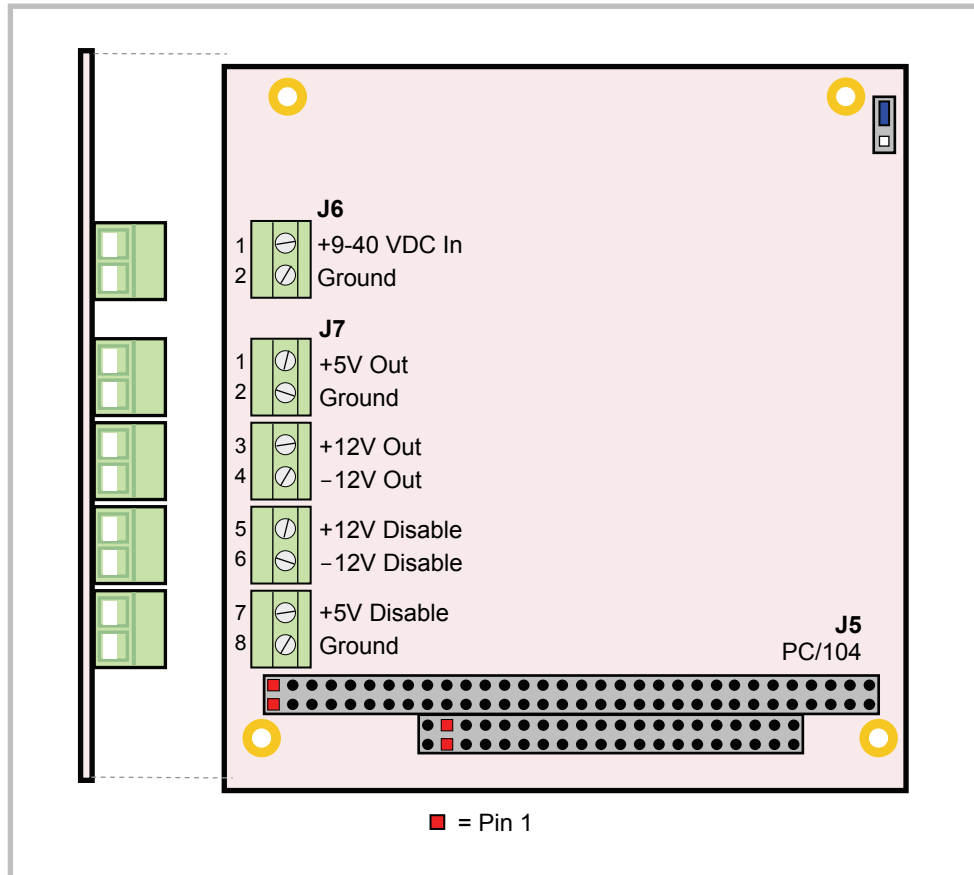

Figure 5. EPMS-PS1 Connectors – Top Side
1. The PCB origin is the mounting hole to the lower left, as oriented in Figure 5.